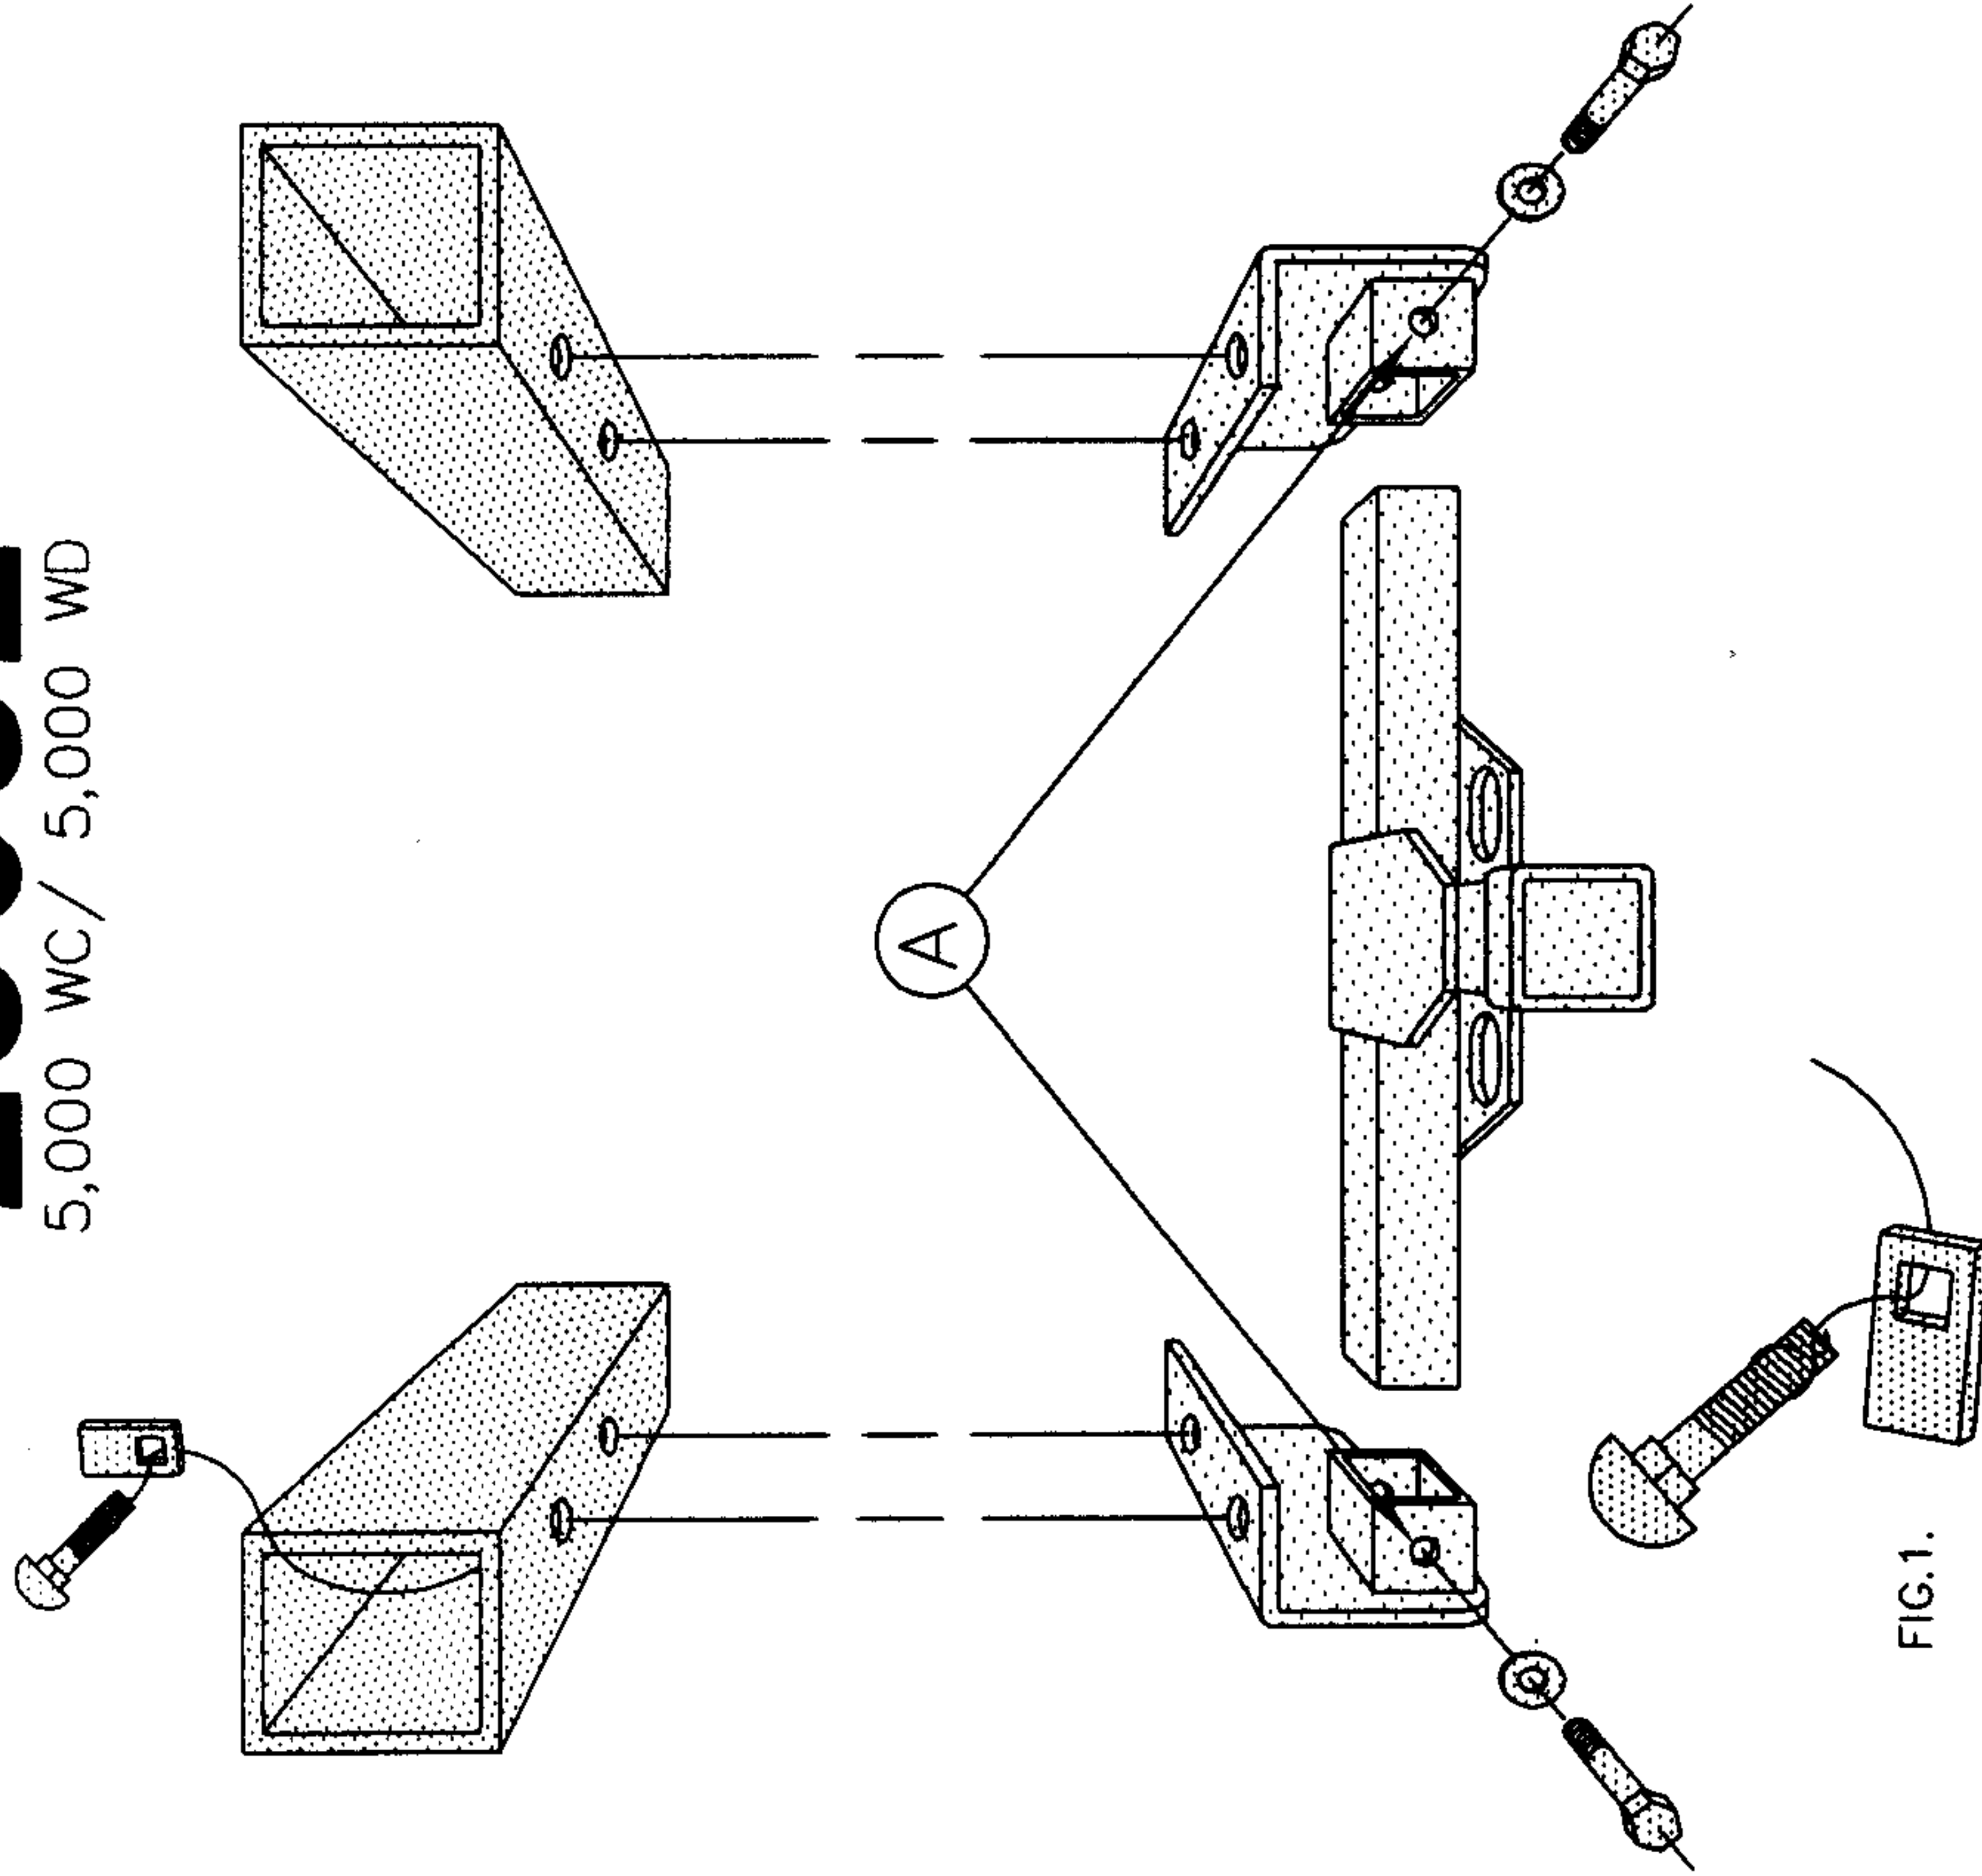

FIG.1.
4. Attach a thin piece of wire to each carriage bolt and run a spacer up the wire as shown in Fig 1. "Thread" open end of wires into frame and out holes drilled in Step 3. Pull wires into position so bolt stems fall below holes in hitch. Fasten hitch into position using flat washers, lock washers, and nuts. If there is not an access hole present in may be necessary to make one. (You may be able to loosen bumper on some models.)
5. Center main tube in end plates and drill hole (A) to 1/2" diameter. Drill one hole then place 4" bolt through hole. Then drill the other end and place remaining bolt in position.